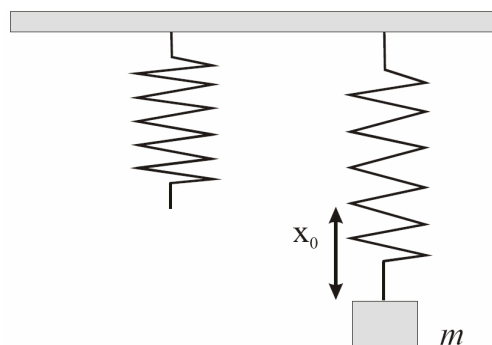

Fig. 1. A mass on a spring in the gravitational field of Earth
5. Show by using Hooke's Law that a stationary mass  $m$  hanging from a spring with constant  $k$  (Fig. 1) stretches the spring to a new equilibrium position  $x_0 = \frac{mg}{k}$ .
6. Confirm by substitution that Eq. (7) indeed solves Eq. (6).
7. Show that when  $\beta = 0$  (no damping), Eq. (7) reduces to Eq. (3).